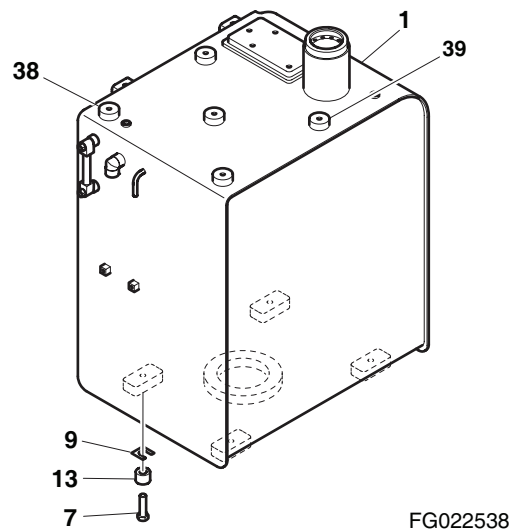

Figure 13
21. Install two 12 mm eyebolts in threaded holes (38 and 39, Figure 13). Using a suitable lifting device, sling eyebolts.
22. Remove six bolts (7) and spacers (13, Figure 13) holding tank (1) to frame. Lift tank 25 mm (1") and make sure it is balanced. Make sure there are no other electrical wires or hoses connected to tank. Completely remove tank after inspection.
23. Remove shims (9, Figure 13).